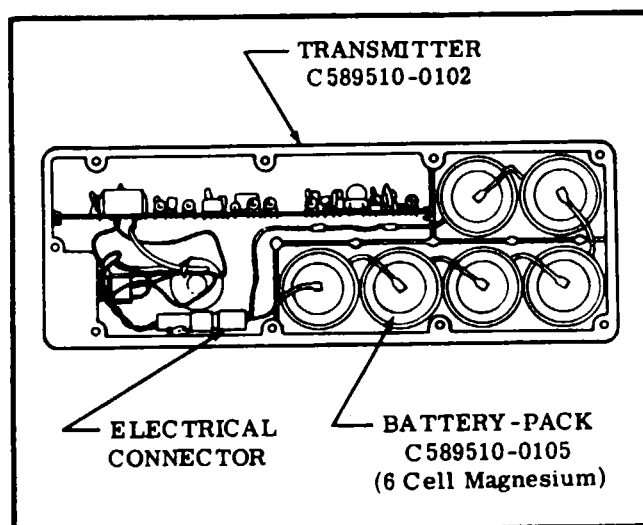

Figure 16-19. Magnesium 6 Cell Battery-Pack Installation
16-102. REMOVAL AND INSTALLATION OF MAGNESIUM SIX (6) CELL BATTERY-PACK. (Refer to figure 16-19.)